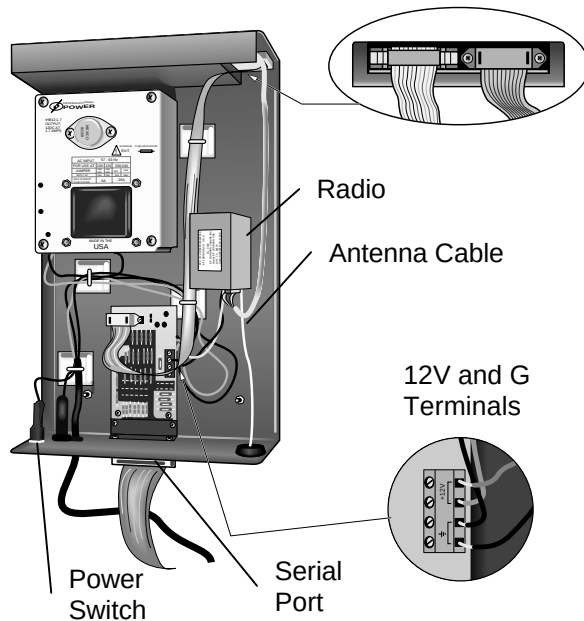

FIGURE 3.3-6. RF232 Base Station Installation
- 2. With the power cord disconnected, remove the four screws that attach the RF232 lid. Remove the lid, and install the RF200 transceiver as shown in Figure 3.3-6. Connect the red wire to the "12 V" terminal, and the black wire to the "⊥" terminal inside the RF232. Connect the multi-colored ribbon cable to the RF modem; make sure that the keyway is properly aligned.